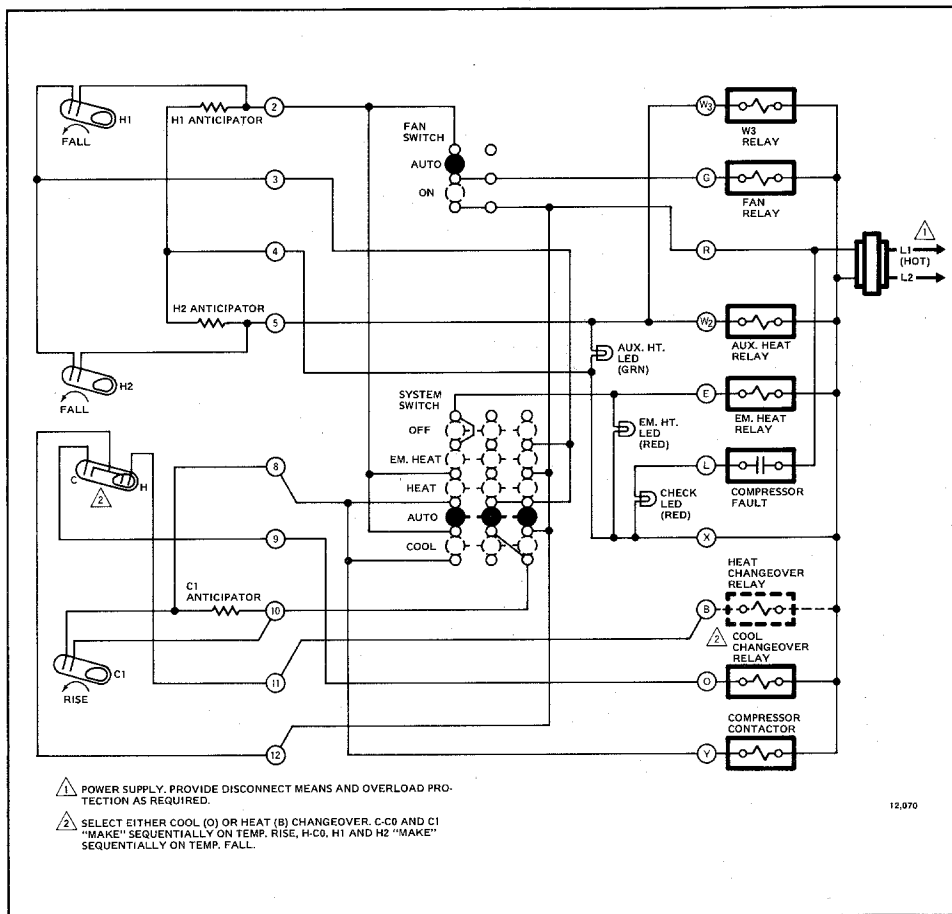
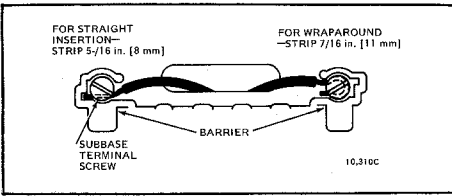

Fig. 4—Internal schematic and typical hookup of T874G and Q674F in heat pump system.
Fig. 6—Wiring connections.
1. Connect system wires to the subbase as shown in Fig. 4 or 5. A letter code is near each terminal for identification. The terminal barrier permits straight or conventional wraparound wiring connection (Fig. 6).